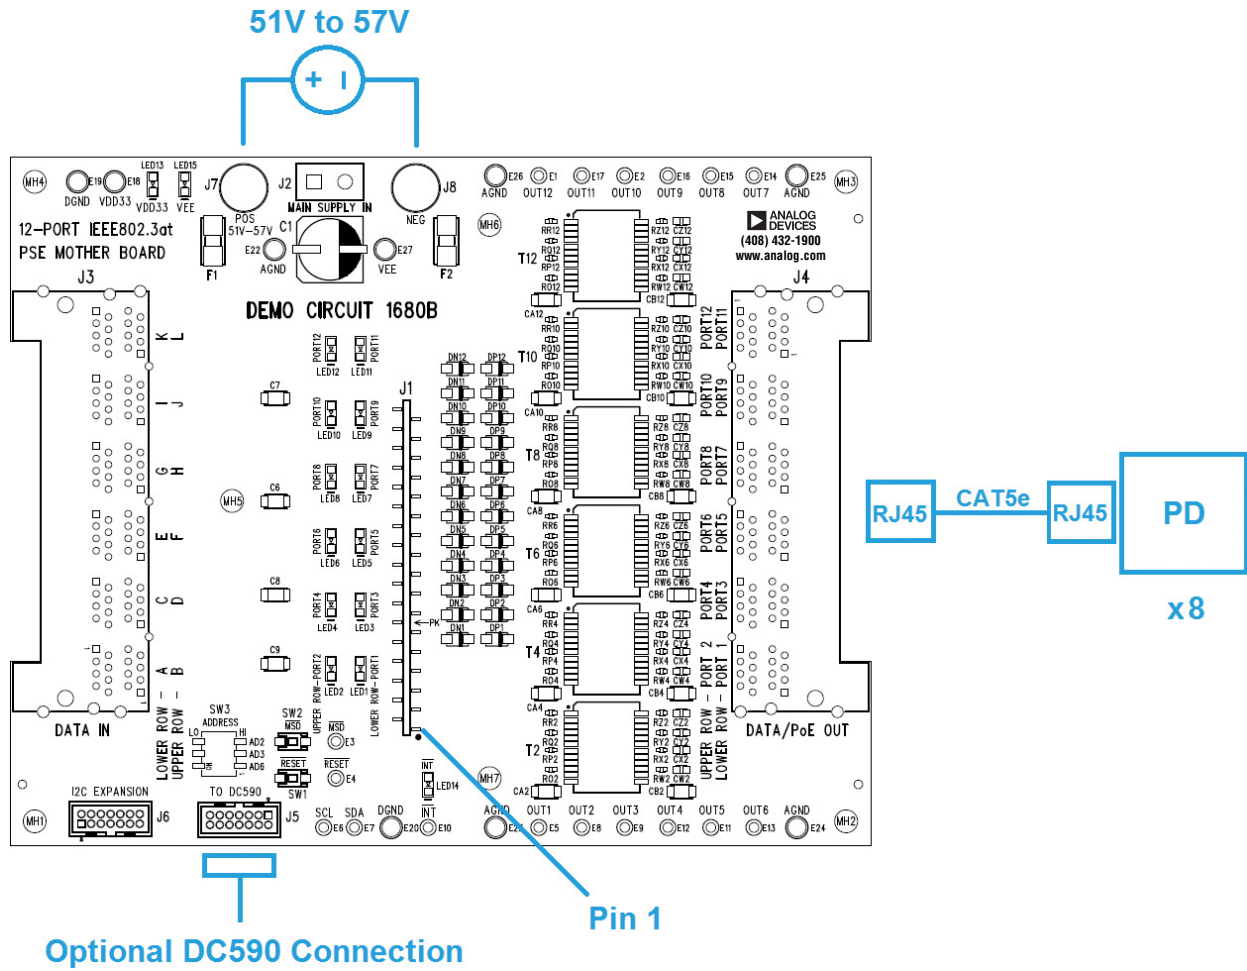
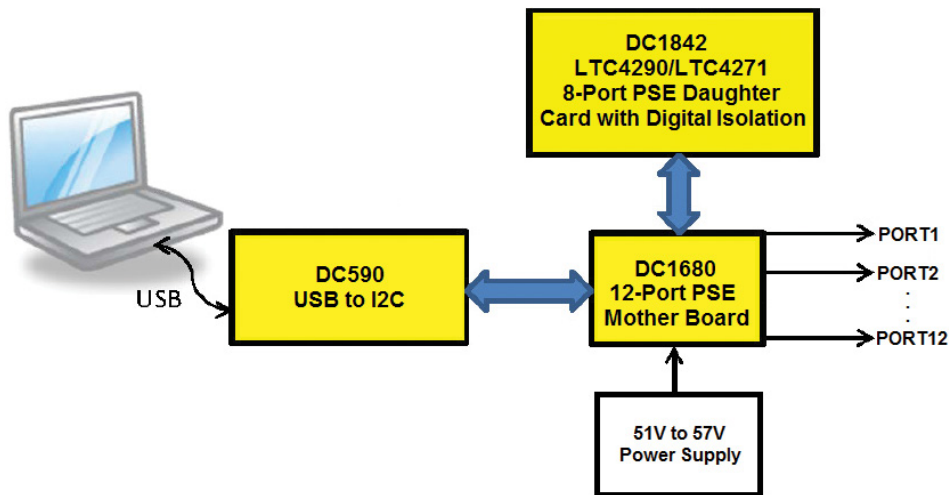

Figure 3. DC1843B Basic Setup
Figure 4. DC1843 System Setup with the DC590, DC1680, DC1842 and 51V to 57V Power Supply
4. On the DC1680B, connect a supply with the positive rail to POS and negative rail to NEG (Figure 3). Use a power supply capable of sourcing the maximum load expected ($8 \text{ ports} \times 850\text{mA} \geq 6.8\text{A}$). Ramp the supply up to 51V to 57V.
5. Connect up to 8 PDs to ports 1-8 at the DC1680B, J4 (Figure 3).
6. The DC590 is optionally connected to the DC1680B connector J5 with a 14-pin ribbon cable (Figure 3). A GUI for the LTC4290B/LTC4271 is brought up by QuikEval for I²C interfacing from a PC (Figure 4).
Connect a power supply for V_{EE} with the positive rail to POS and negative rail to NEG as shown in Figure 3 of the Quick Start Procedure. Set the voltage within the range in Table 1 depending on whether the application is a Type 1 or Type 2. Choose a power supply rating and set the current limit high enough to provide power for the maximum number of PDs connected and to meet each PD power requirements.
PDs are connected using an Ethernet cable to any of the 8 ports at the 2×6, RJ45 connector J4 on the DC1680B (Figure 3). Test points for port outputs OUT1 through OUT8 are provided.